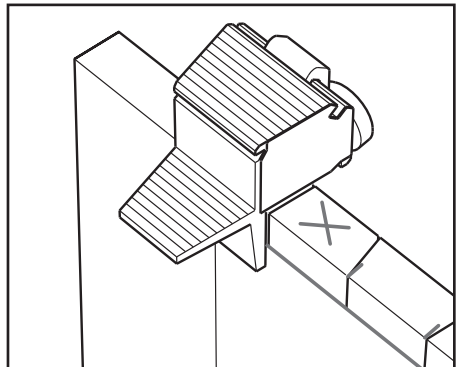

Figure 15: Using an adjacent piece to secure the guide for the last cuts.
15. For the two half pins at each end of the pin board, clamp the guide to an adjacent piece of wood of the same thickness (**Figure 15**) in order to keep the guide secure while sawing.